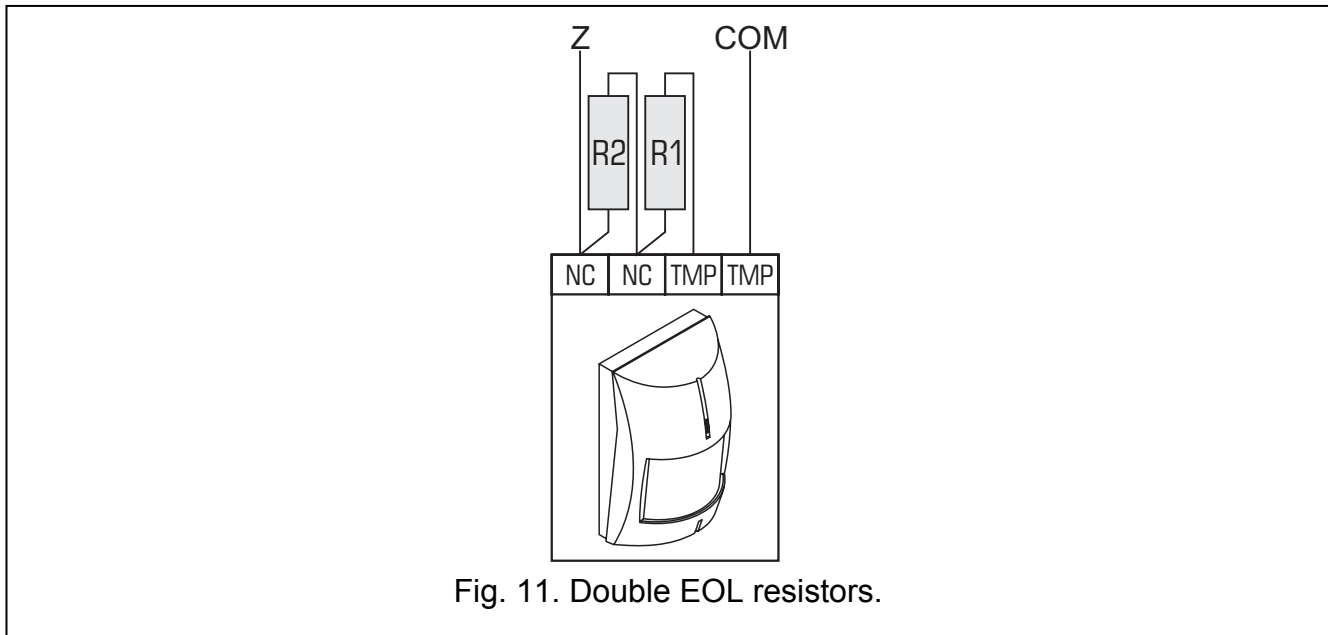

Fig. 11. Double EOL resistors.
- on the INTEGRA 128-WRL control panel mainboard, in INT-KSG keypads and in the zone expanders with firmware version 4.00 – the value of R1 and R2 resistors is programmed individually for the 2EOL zone (see Fig. 11). The resistor value for the EOL wiring is a sum of values programmed as R1 and R2.